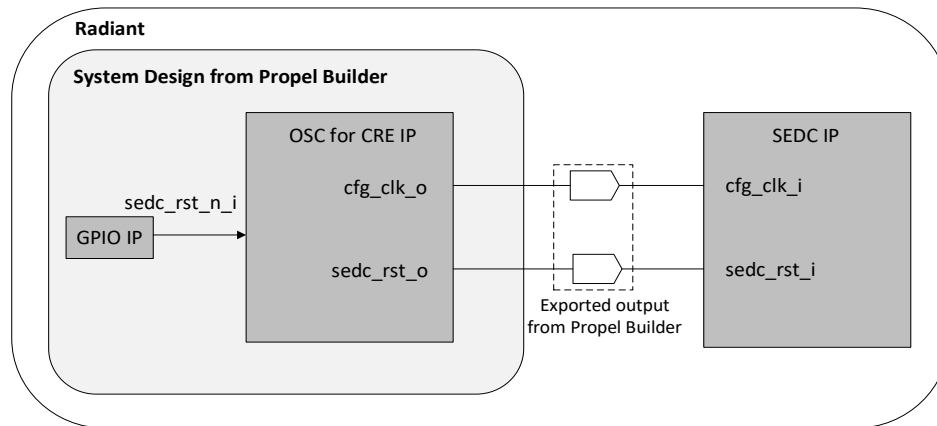

Figure 10.1. GPIO IP to Assert *sedc_rst_n_i* Before Executing Software Reboot API
- If you implement Embedded Security and Function Block (ESFB) IP in MachXO5-NX RoT devices, take the following procedure. Instantiate the GPIO IP in Lattice Propel Builder to connect to *sedc_rst_n_i* of the OSC for CRE IP. Export the OSC CRE IP *cfg_clk_o* and *sedc_rst_o* pins in Lattice Propel Builder to connect them to SEDC IP *cfg_clk_i* and *sedc_rst_i* pins respectively in your RTL design. Execute the API of GPIO IP to assert *sedc_rst_n_i* before executing the ESFB software reboot API. Figure 10.1 shows the connection between GPIO IP, OSC for CRE IP, and SEDC IP.
Important Note	- For the second condition, the SEDC primitive must be held in reset: - added c) before executing software reboot API in MachXO5-NX RoT device to the second condition; - replaced OSC with OSC/OSC for CRE IP; - added the following paragraph: If you implement Embedded Security and Function Block (ESFB) IP in MachXO5-NX RoT device, take the following procedure. Instantiate the GPIO IP in Lattice Propel Builder to connect to sedc_rst_n_i of the OSC for CRE IP. Export the OSC CRE IP cfg_clk_o and sedc_rst_o pins in Lattice Propel Builder to connect them to SEDC IP cfg_clk_i and sedc_rst_i pins respectively in your RTL design. Execute the API of GPIO IP to assert sedc_rst_n_i before executing the ESFB software reboot API. Figure 10.1 shows the connection between GPIO IP, OSC for CRE IP, and SEDC IP. - added Figure 10.1. GPIO IP to Assert sedc_rst_n_i Before Executing Software Reboot API. - Added the following paragraph: If Authentication is implemented together with SEDC IP, the SEDC IP must be held in disable, that is, sedc_en_i must be asserted to low, for user to check the Auth Done bit after device configuration is completed and the device enters user mode. Otherwise, once the SEDC engine runs, the Auth Done and std Preamble bits in the status register are cleared to 0. The clearing of these bits does not affect the device functionality negatively. - Added the following paragraph: The SEDC IP must be disabled to perform any ISC and programming commands via CONFIG_LMMI block, or JTAG, or Slave configuration interface, such as Slave SPI, I2C, or I3C interfaces, in direct/background programming operations. This can be done by the following sequence. - Stop SEDC operation by de-asserting sedc_start_i from high to low. - Wait sedc_busy_o signal to go low. - De-asserts sedc_en_i from high to low. - Perform any ISC and programming commands in background operations. - Restart SEDC operation after ISC and programming command transaction is finished. The background operations may or may not work and might cause the device to exit user mode if you perform ISC and programming commands when SEDC engine is running. It might also cause the device entered into unrecoverable error state and power cycling the device is required. - Added the following paragraph: The SEDC IP operation must be stopped to perform any flash access operations using Flash Access IP. Otherwise, flash access operation does not work as expected.